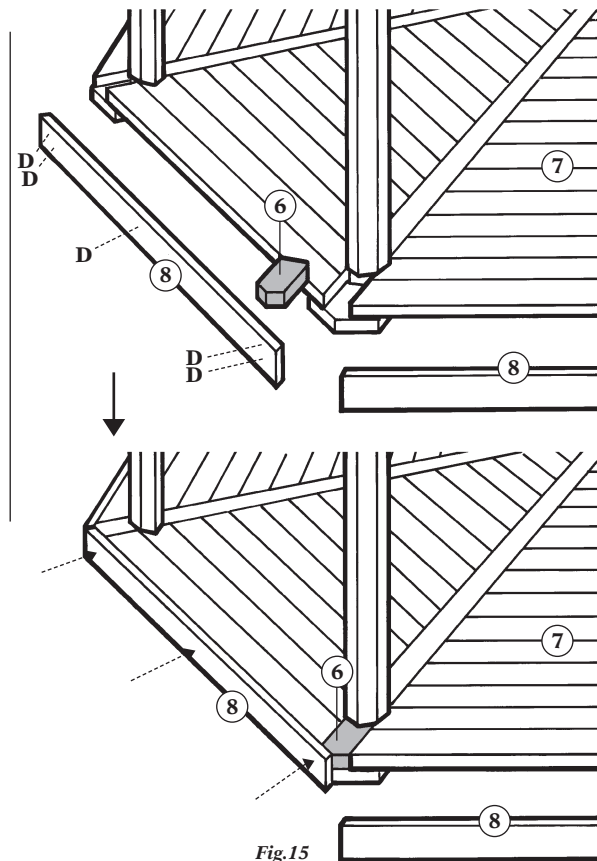

Fig.15
Finally, fit the Floor Skirting Boards (8) to the floor using screws (D) as shown in Fig.15.